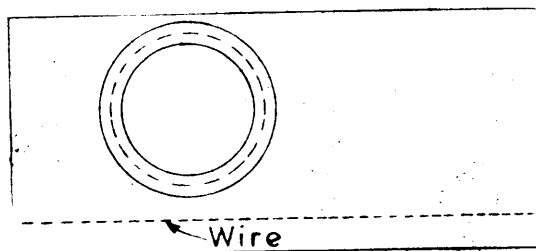

Figure 8.
1. Use fine wire or string and place on center of stock. Then straighten out and measure. (Figure 8). Fine wire will hold in place better than string.